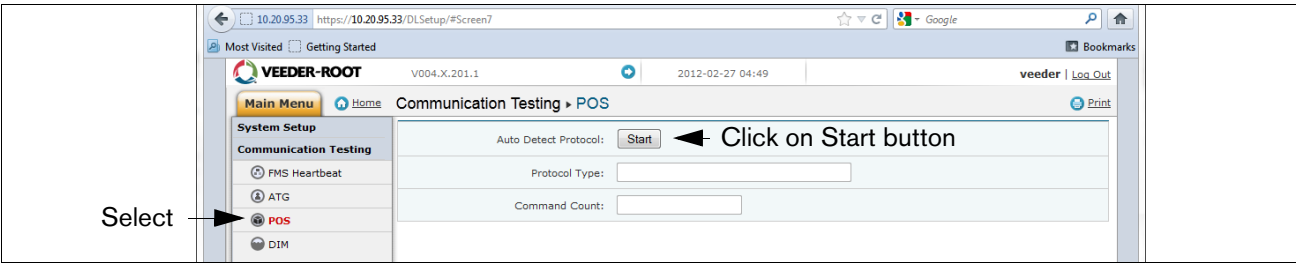

Figure B-16. POS Protocol Type Query
18. Click on “POS” to detect the POS protocol. Click the “START” button next to “Auto Detect Protocol” and wait for the Protocol Type to appear (see example in Figure B-16).